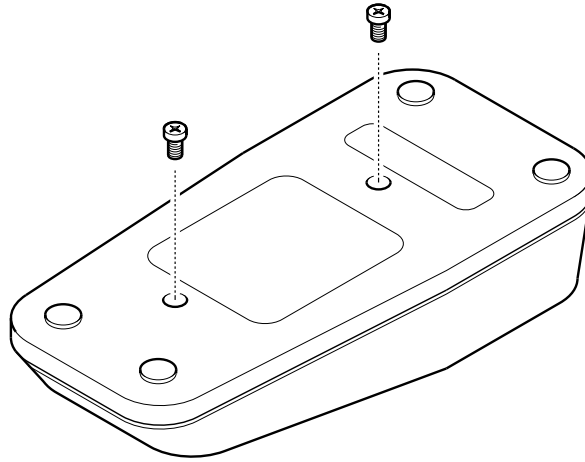

Figure 13: Case screw removal
1. Figure 13 Place the Dual Charger upside down on a flat work surface. Remove the two case screws.